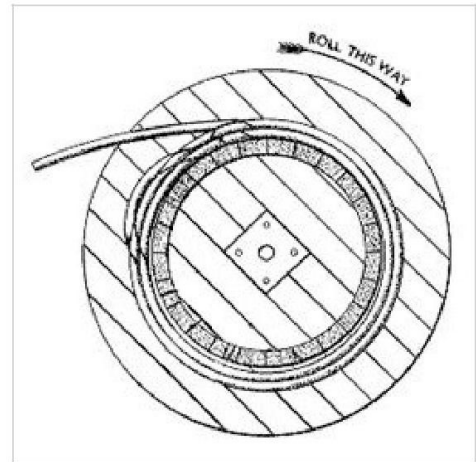

Figure 3
- When the drum is mounted on cable jacks in order to draw off, lay, or re-spool cable, it is rotated in the direction opposite to that indicated by the arrow (see Figure 3 on page 2).